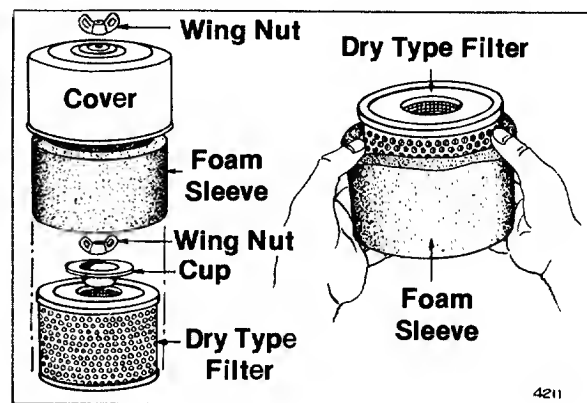

FIGURE 18.
1. Remove wing nut and cover. See figure 18.